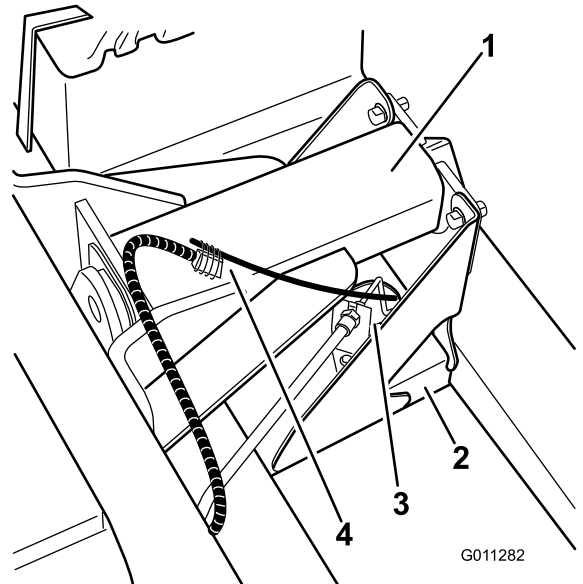

Figure 8
- Route the harness down into the opening on the center channel of the frame, below the frame transition joint (Figure 8).